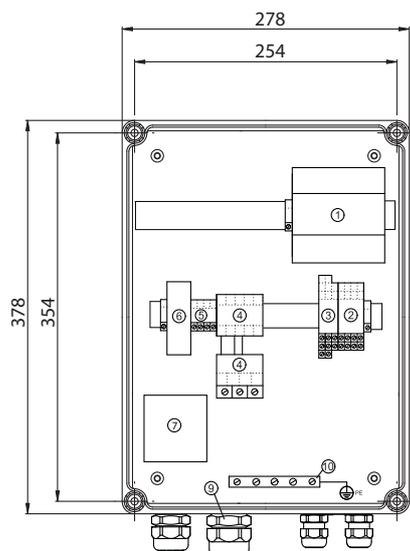

Fig. 1
- with four screws through the mounting holes in the back plate of the cabinet, see fig. 1. The mounting holes must be bored with a 4 mm bore. Fit the screws into the mounting holes and tighten securely. Fit the plastic caps supplied with the controller on the screws (IP65).
Figure 1 shows the *internal* construction of the LC 108 for direct-on-line starting.
Key to the symbols in figs 1 and 2: